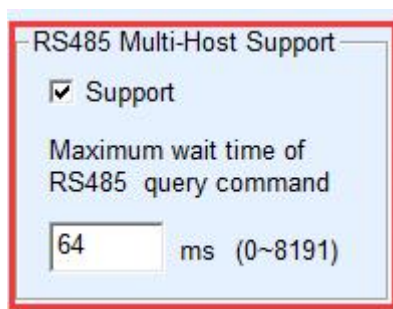

Figure 28 RS485 multi-host support
As shown in figure 28, "RS485 multi-host support" and "RS485 bus collision detection function" are ZLAN's multi-host functions. They are generally both enabled and disabled at the same time. After enabling, the device that converts the protocol into Modbus TCP has the function of storage Modbus gateway; otherwise, it is a non-storage Modbus gateway. If the conversion protocol is none, generally, the user-defined RS485 protocol can also have the function of serial devices accessed by multiple hosts at the same time, which cannot be achieved in the pure RS485 network, because the sending of multiple master stations at the same time will cause conflicts
- 2) Figure 28 shows "RS485 instruction reply timeout time", which is generally determined according to the length of the reply instruction. If the sending instruction is N bytes and the reply is M bytes, the recommended value is: "packet interval" * (N+M+5) +100.